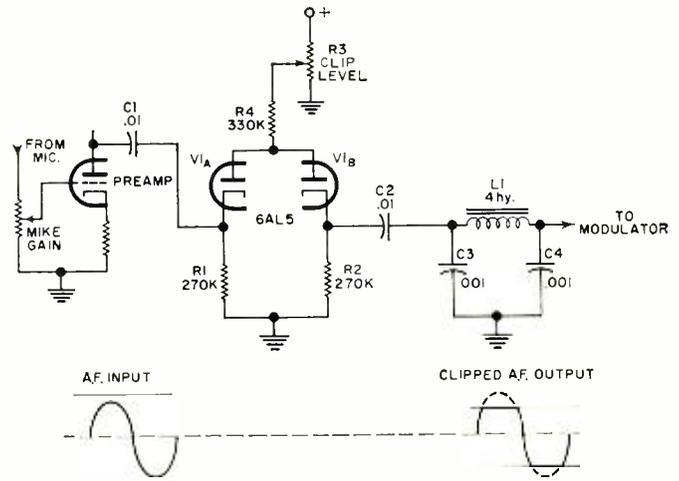

Fig. 1. Example of one type of simple clipper-filter circuit.
*The clipper-filter.* Operating instantaneously, the clipper chops a speech waveform when it exceeds a certain amplitude. This limits volume, although it also introduces a lot of harmonic distortion. But distortion can be filtered out so it isn't transmitted. Fig. 1 illustrates clipper function. As V1A cathode swings positive (below the value of its plate voltage) the tube conducts until cathode and plate potentials are equal. Current flow through the combined load resistor R4, couples the signal into V1B, where it appears across R2 and the output. During the input signal's positive peak, when V1A cathode is positive with respect to its plate, current flow through V1A is nil, and no signal is coupled to V1B or to the output. During the negative half-cycle, increased current flow through R4 causes a voltage drop equalling the applied plate voltage. Since V1B plate is no longer positive with respect to its cathode, conduction through V1B ceases and the negative peak does not appear in the output. Hence, both positive and negative peaks are clipped at a level established by R3.